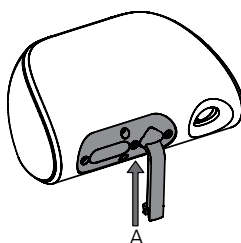

Figure 13
In all cases, loosen the accessible ball joint securing screw (A), rotate the stem through 90° and tighten the screw again. For landscape orientation, leave the stem in that position (Figure 13).